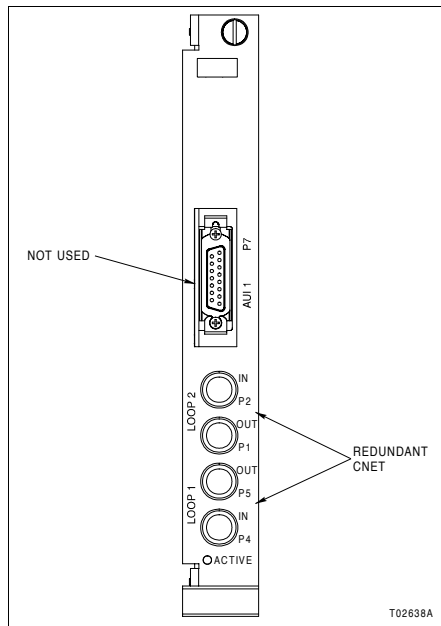

Figure 5-4. Network TU Front Panel
Figures 5-4 and 5-5 show the network termination unit (TU) and communications TU front panels respectively. The units are mounted in the docking station TU housing and are located behind an access door. TU LEDs show activity for the various serial channels.